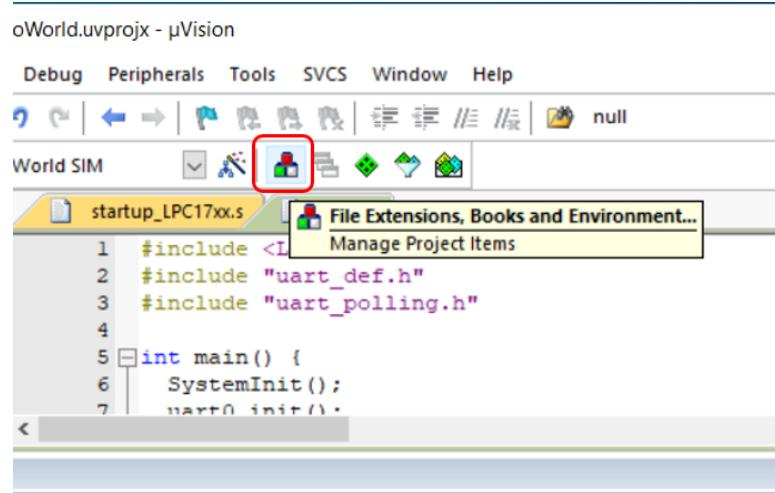

Figure 8.25: Keil IDE: Manage Project Items Button
- Press the Managing Project Item button (see Figure 8.25).